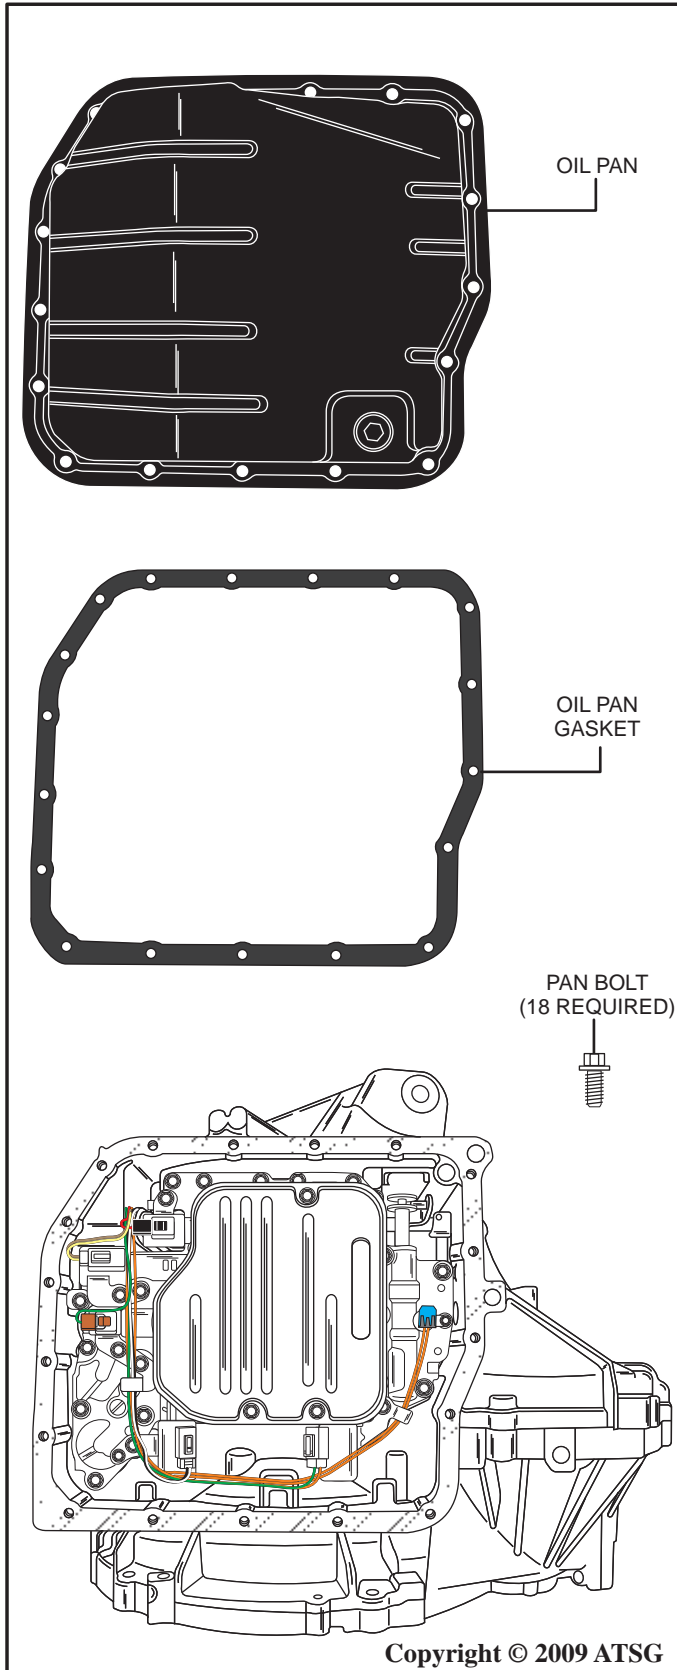

Figure 15
1. Remove the eighteen pan bolts from the transmission as shown in Figure 15.
2. Remove the oil pan and oil pan gasket as shown in Figure 15.